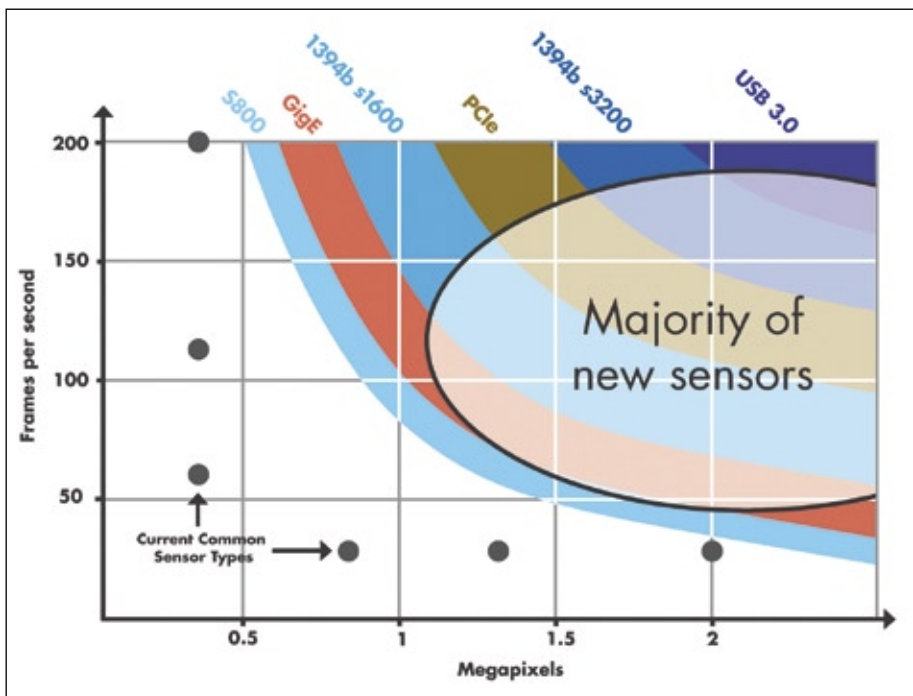

Fig. 4: Most existing digital interfaces do not provide the required bandwidth for many new image sensors
Fig. 4: Grey-level image (top), edge image (centre) and result of the Hough-transform for circles (bottom); points are depicted as overlay with the original image to show the centers of the circles detected. Mind the white point as centre of the partly occluded metal ring.
(sometimes quite small) probability for a match between the template and a structure in the image. There is a huge range of different approaches for construction and implementation of these procedures [4]. In figure 4, we used the Hough-transform for circles to demonstrate that even simple methods may already be robust with respect to reflections and inhomogeneous lighting, may show good discrimination against further structures and can be quite successful with partly occluded objects. Complex models may soon get out of control concerning processing time and must be carefully optimized [4]. There is no doubt, however, that Geometric Model Finders are a valuable additional tool in the image processing workshop and meanwhile belong to the basics of this field.
4.5 W of power delivery is well-suited for many of the high-speed, multi-megapixel image sensors on the market today (see fig. 4). While Camera Link is still the bandwidth leader at approximately 680 MByte/s with a full eight-tap configuration, many customers may choose to sacrifice some pixels or frames per second in exchange for the easier to use and more cost-effective USB 3.0 alternative. Like FireWire, the USB 3.0 specification provides power and data over a single cable; has guaranteed, truly isochronous bandwidth; and is well-matched to applications requiring small size and low cost. However, while USB 3.0 is almost 10 times as fast as FireWire and GigE, FireWire provides more power (up to 45 W) and GigE's maximum cable length is superior.